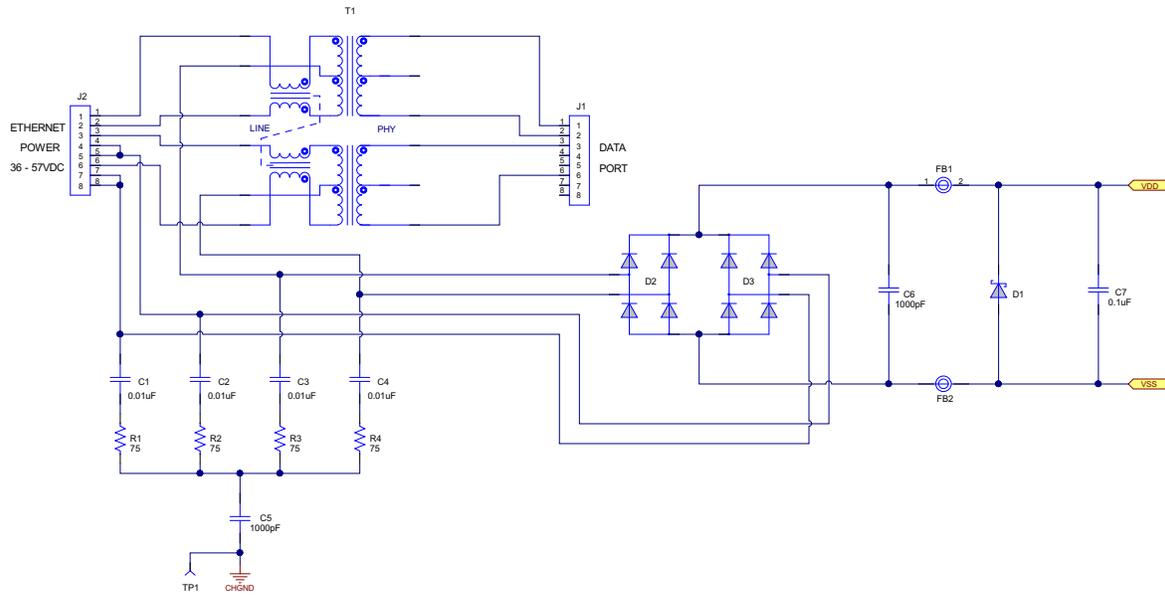
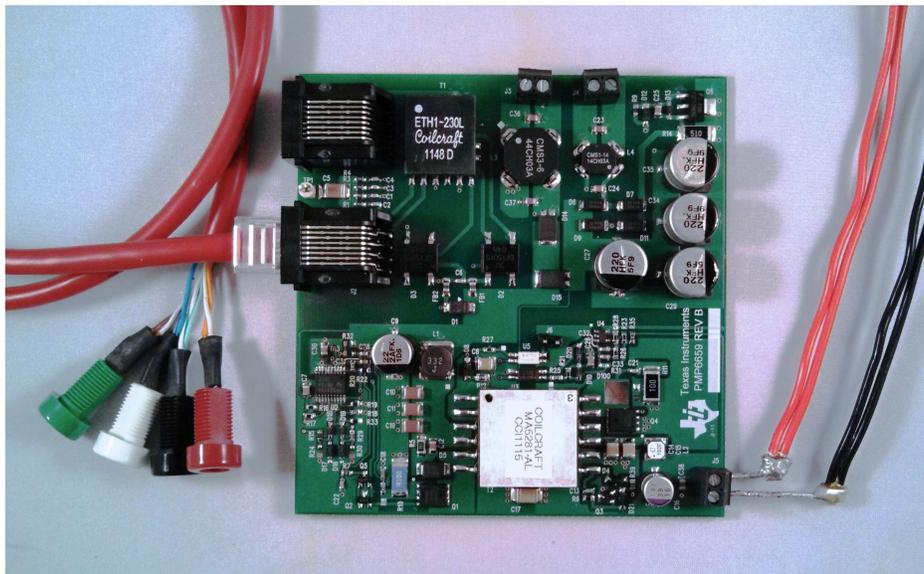

Figure 10. PMP6659 PoE Input Schematic
Figure 11. PMP6659 PoE Input Setup
As shown in Figure 10 and Figure 11, connect a Power over Ethernet input or a bench supply to J2 (see Section 8 for the PMP6659 schematic). The output power is transmitted from the J5 connector.
1. 48-VDC input at J2 (see Figure 10 and Figure 11)